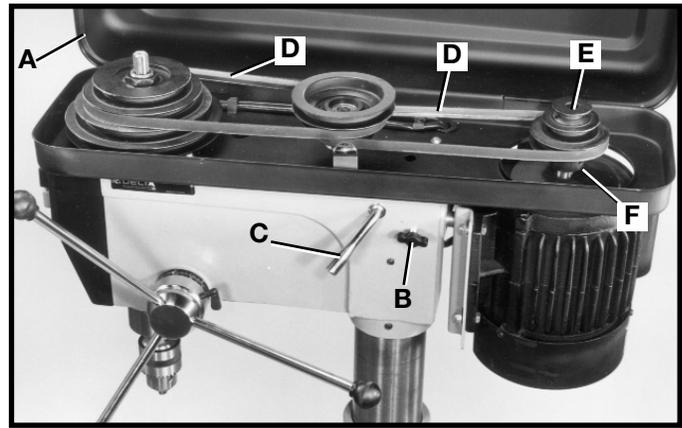

Fig. 26
1. Lift up the belt and pulley guard (A) Fig. 26.
2. Loosen the two lock knobs, one of which is shown at (B) Fig. 26. The remaining lock knob is located on the opposite side of the head casting.
3. Release belt tension by moving tension lever (C) Fig. 26, forward.
4. Position the two belts (D) Fig. 26, on the desired steps of the motor, center and spindle pulleys. To raise or lower motor pulley (E) Fig. 26, use the 4mm hex wrench and loosen set screw (F), located under the pulley. After pulley is positioned, re-tighten set screw (F).
5. After the belts (D) Fig. 26, are positioned on the desired steps of the motor, center and spindle pulleys, move tension lever (C) to the rear until the belts (D) are properly tensioned and tighten the two tension lock knobs (B). The belts (D) should be just tight enough to prevent slipping. Excessive tension will reduce the life of the belts, pulleys and bearings. Correct tension is obtained when the belts (D) can be flexed about 1" out of line midway between the pulleys using light finger pressure.